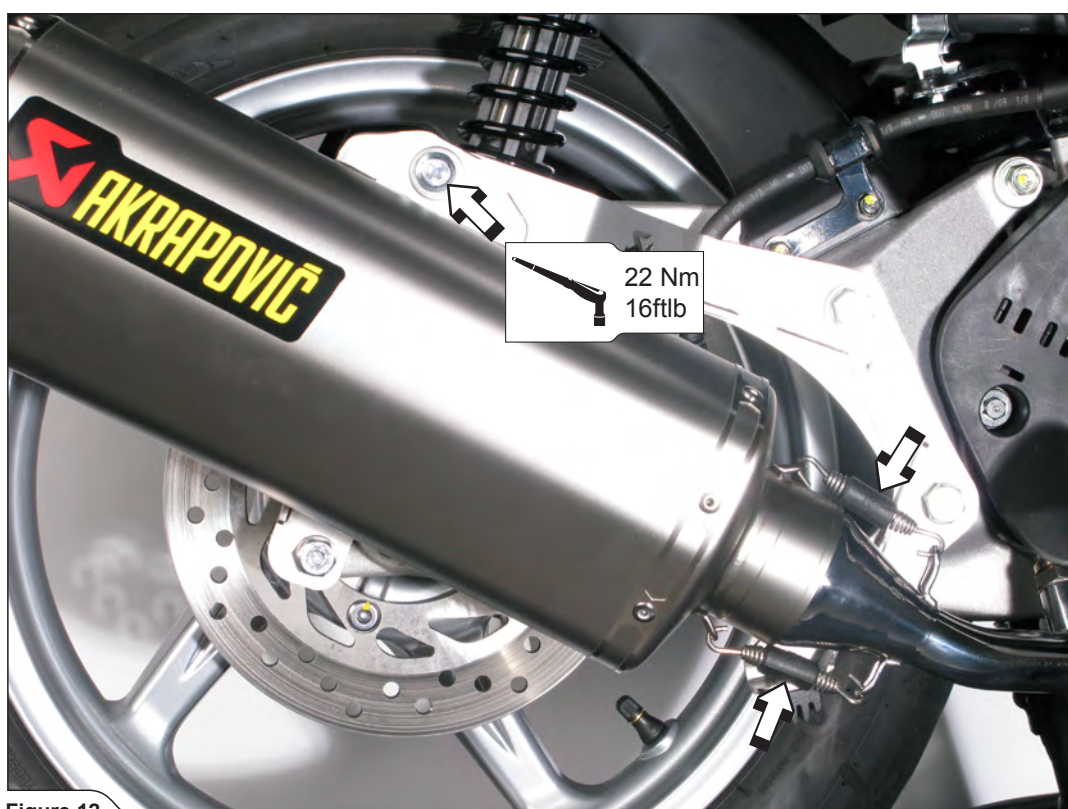

Figure 12
6. Position the muffler correctly and slide it onto the outlet side of Akrapovič link pipe. Attach the springs. Align the muffler in respect the motorcycle and tighten the muffler onto the muffler bracket, using Akrapovič bolt and washer (Figure 12).